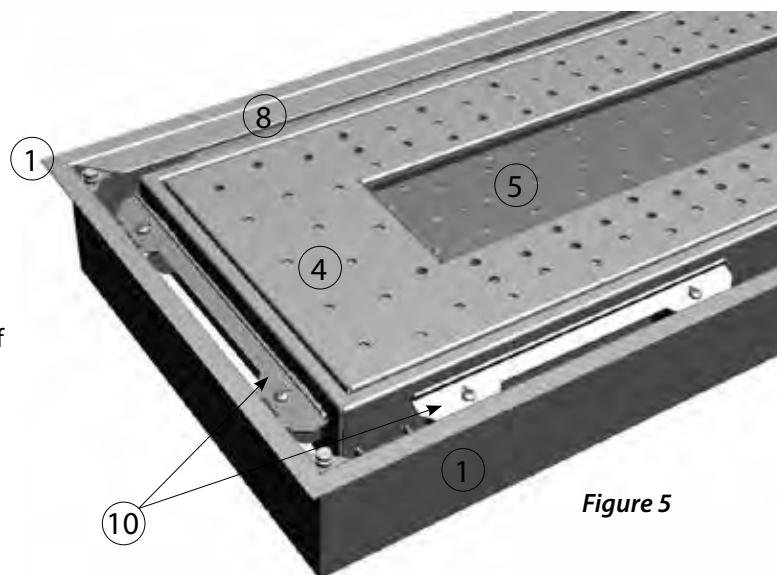

Figure 5
Figure 5 shows two Glass Clamps, (10) after some of the Finish Trim (8) is removed.